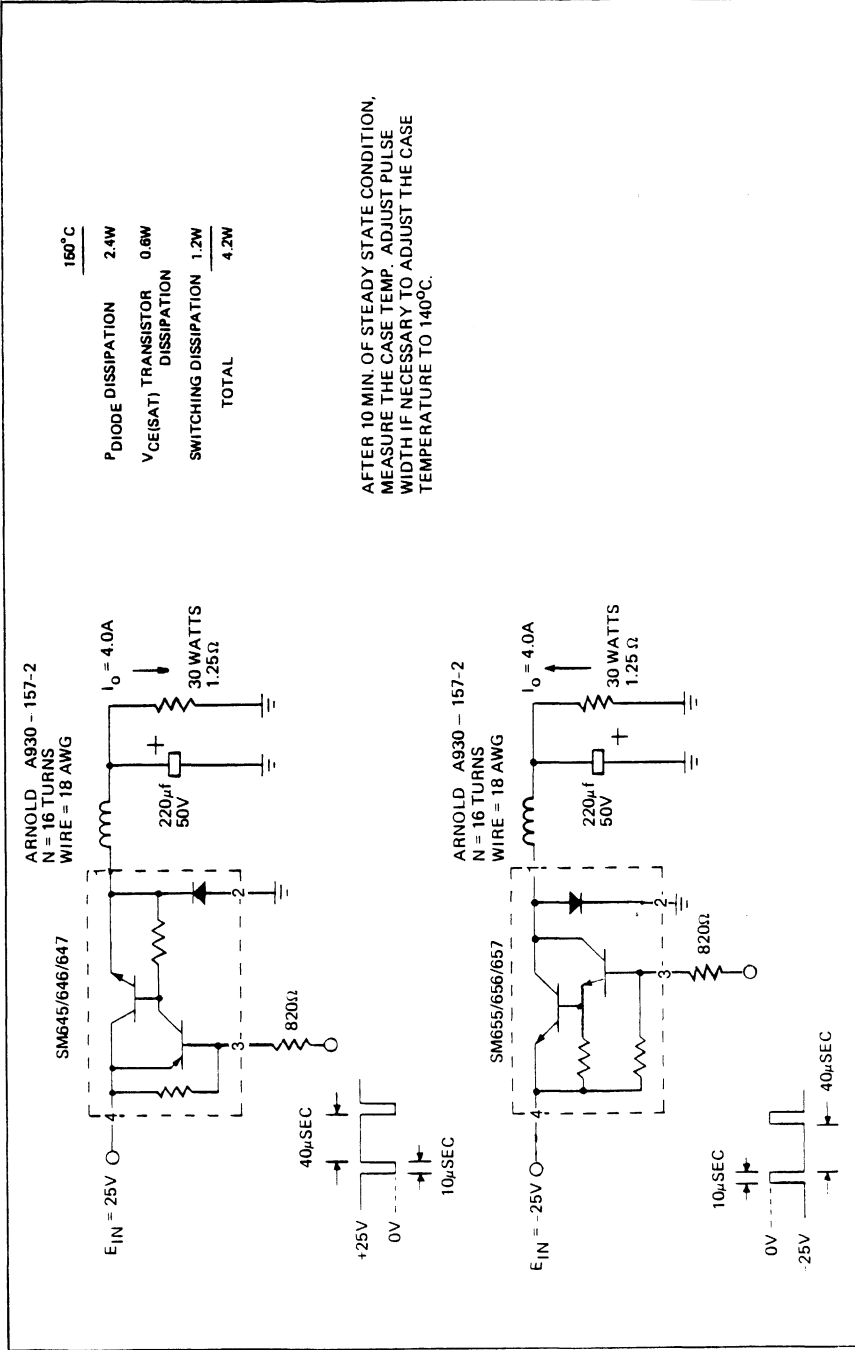

Figure 4. POWER BURN-IN CIRCUIT
$T_C = 25^\circ C$, see Figure 4
4.3.8 Power Stress – Each Hybrid device shall be burned-in using the circuit shown in Figure 4. The conditions are as follows:
Circuit and conditions as shown in Figure 4.